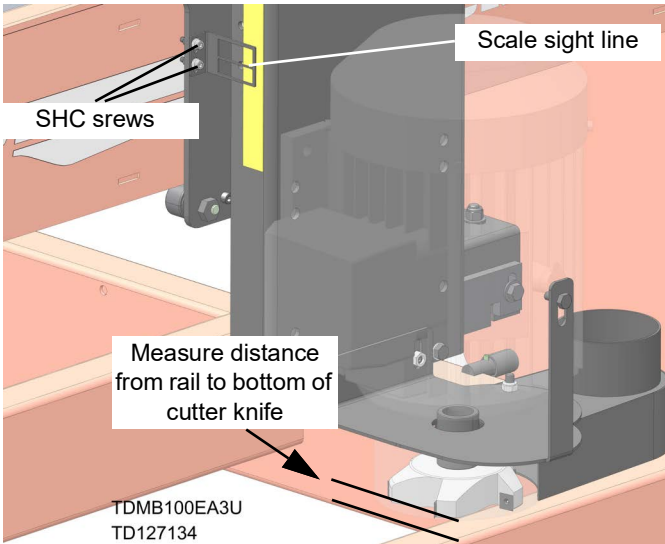

FIG. 5-3
- Locate scale measuring strip at side of up/down mounting plate. See FIG. 5-3
- If scale requires adjusting, loosen (2) socket head cap screws.
- Tighten (2) SHC screws.